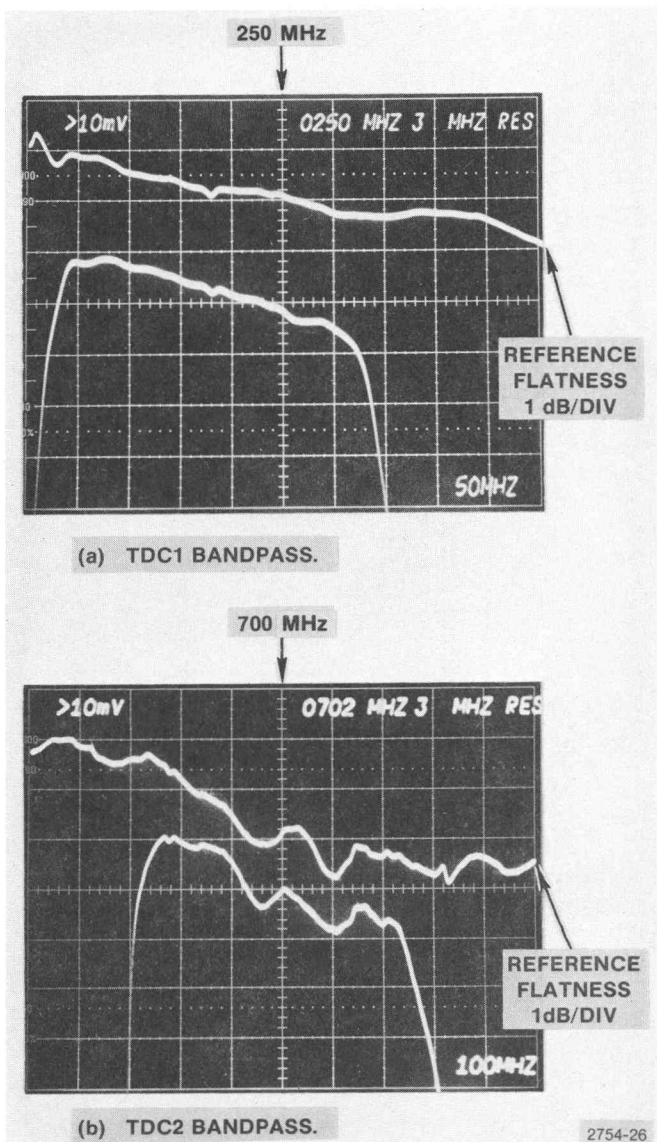

Fig. 4-15. TDC1 and TDC2 Bandpass Waveforms.
d. Adjust C17, C35, C45, and C54 (TDC1), or C28, C34, C36, C48, and C53 (TDC2) on A2 to match the reference flatness established in part a. Check that the insertion loss is approximately 1 dB with no fast transitions or notches in the passband. See Fig. 4-15.